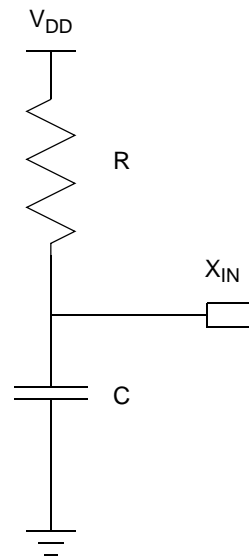

Figure 23. Connecting the On-Chip Oscillator to an External RC Network
Figure 23 displays a recommended configuration for connection with an external resistor-capacitor (RC) network.